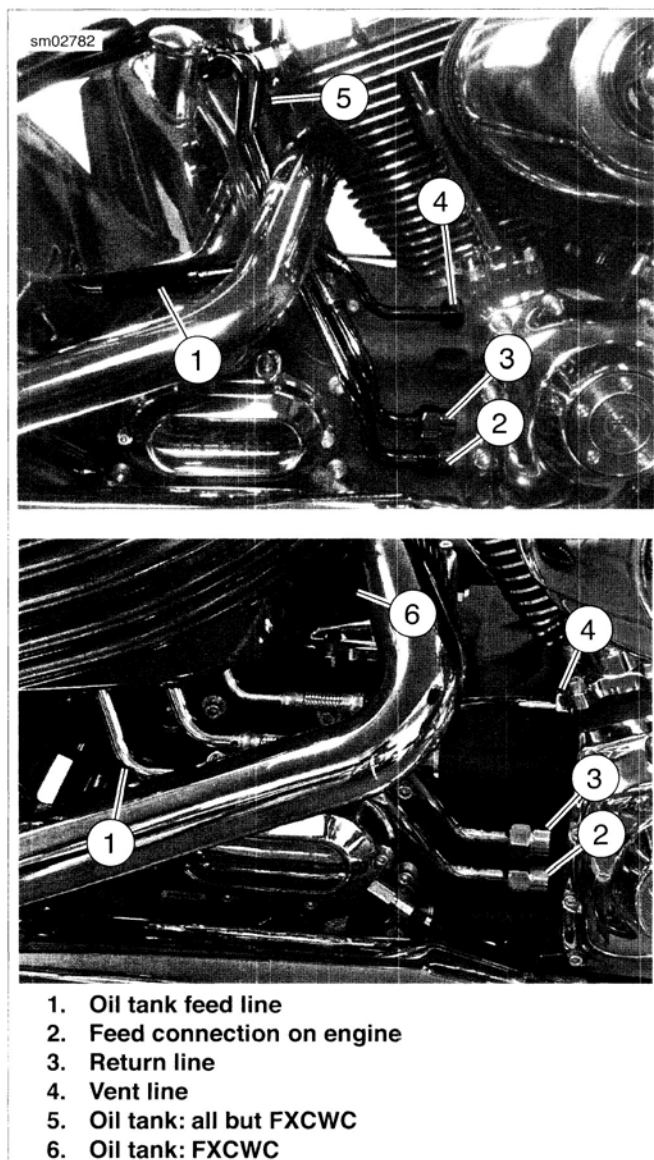

Figure 3-1. Oil Flow from Tank
See Figure 3-1. Oil flows from the oil tank feed line (1) to the engine feed connection (2) at the rear right side of the crankcase.
The oil flows through a passageway in the crankcase and exits the upper fitting (3) at the rear right side of the crankcase as shown in Figure 3-1. Passing through a flexible hose, the flow of oil returns to the oil tank.